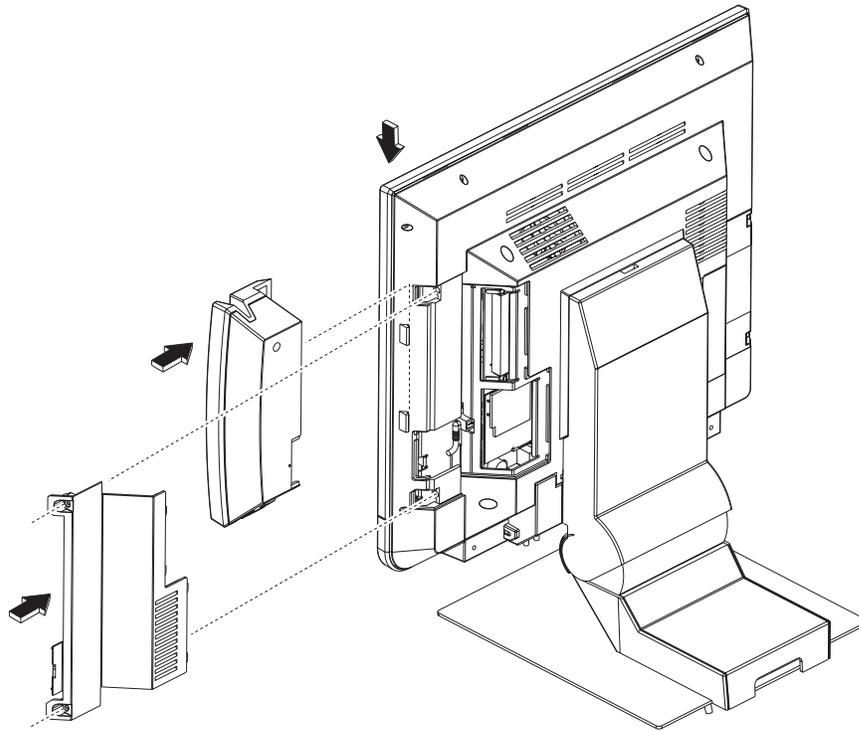

Figure 6. Installing the MSR
1. See Figure 6 on page 12. Remove the hard drive door by unfastening the two screws located on the door and discard.